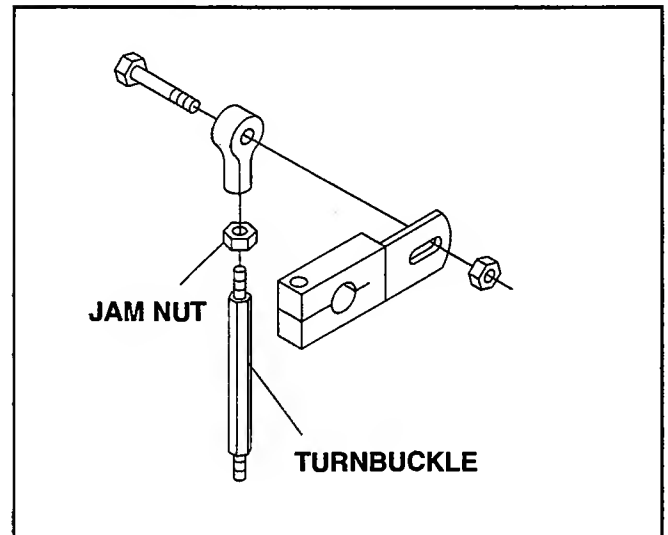

Figure 10
2. Locate turnbuckle for LH pump under the operator seat in front of the hydraulic oil tank. (See Figure 10)